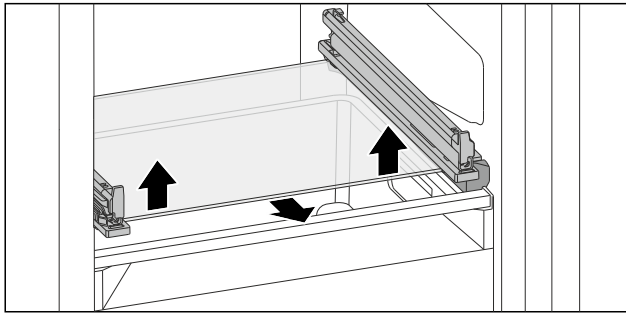

Fig. 177 Tilting drawer glass shelf
- ▶ Push glass shelf upwards from below on both sides. (see Fig. 177)